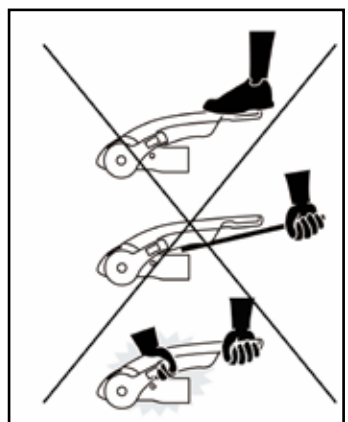

FIG. 6.
- 2. Press the stabiliser lever down by hand only, DO NOT use your foot or an extension bar: this will damage the components (Fig. 6).
- 3. When opening or closing the stabiliser lever, please ensure your hand does not touch the coupling handle to avoid injury (Fig. 6.)